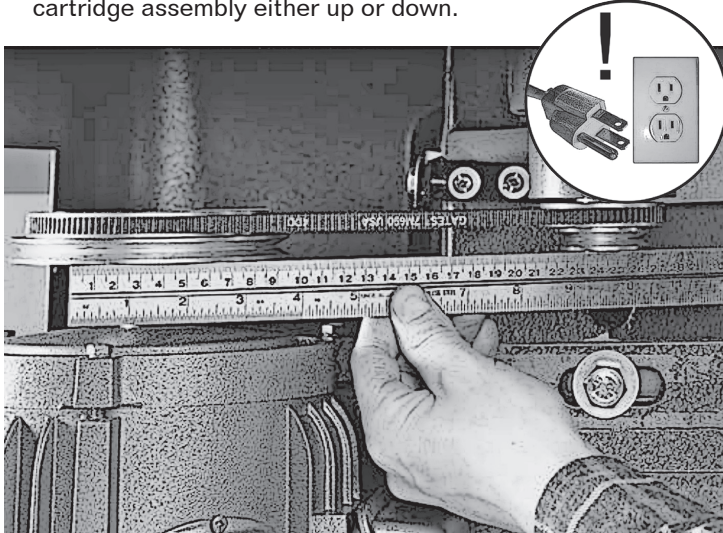

Fig 25. Inspecting pulley alignment.
3. Check the alignment with a straightedge. If the pulleys are in alignment, the straightedge should touch two sides of each pulley evenly. **Figure 25.**